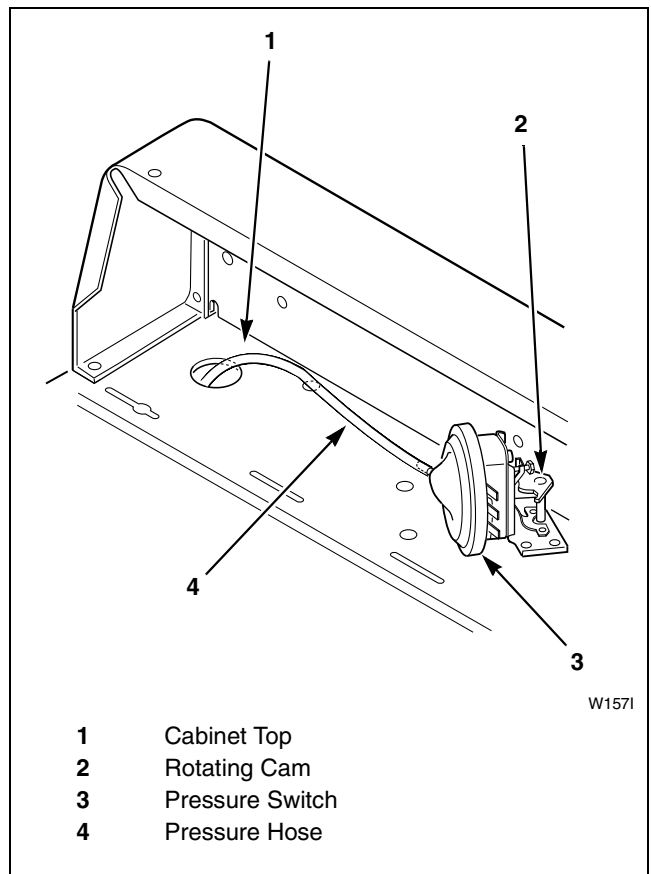

Figure 48
3. Rotate the cam on the pressure switch clockwise to lower the water fill height, or counterclockwise to raise the height. Refer to *Figure 48*.